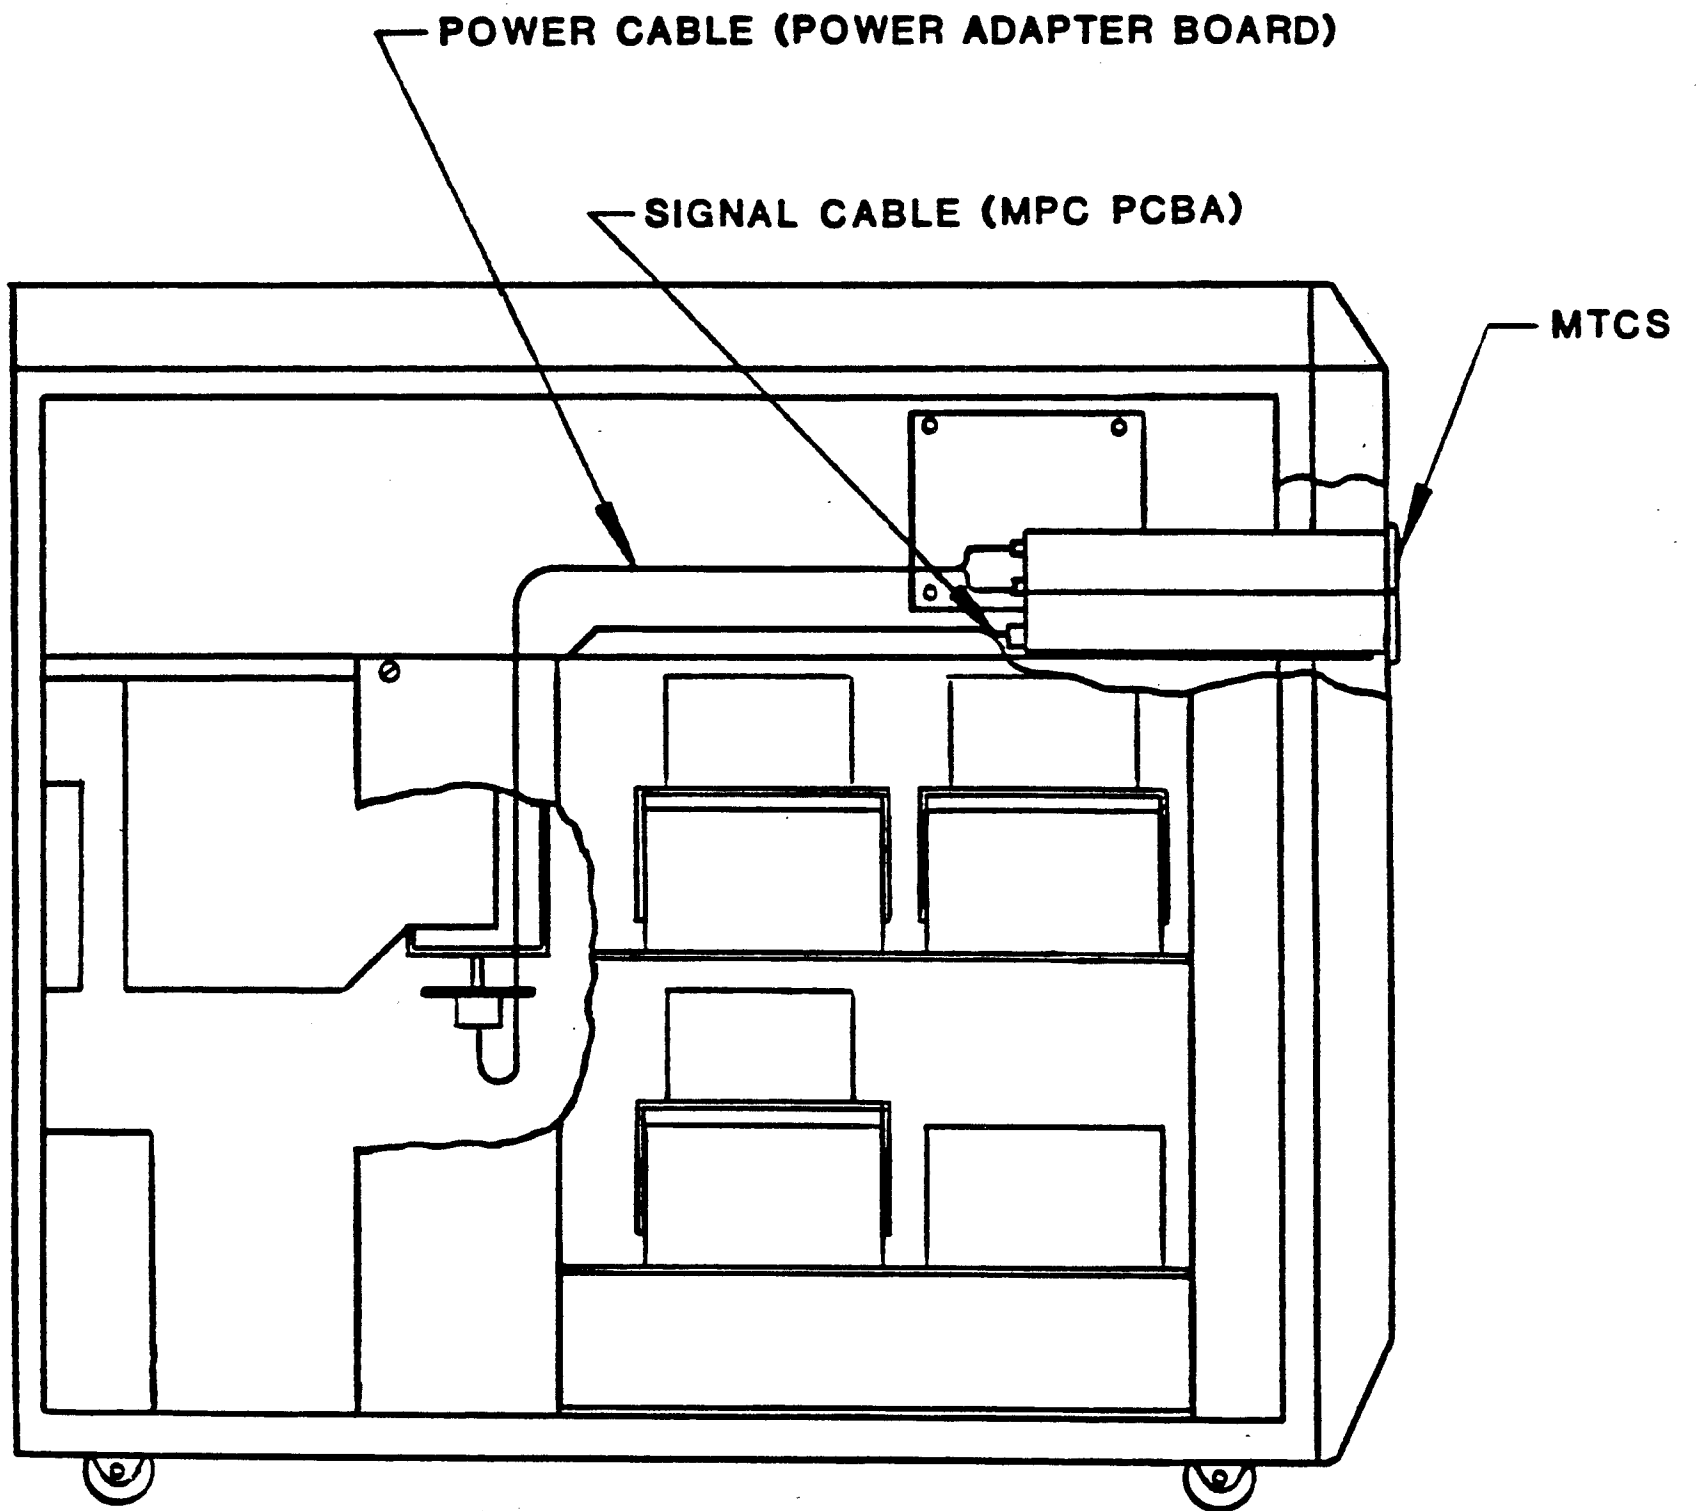

Figure 5-1. MICS Cable Routing
4. Mount the MTCS to the chassis (refer to Figure 5-1), and install and route the 907174-029 bus cable assembly from the MPC controller to the MTCS.
5. Install the 916116-001 Y-breakout cable assembly from the power adapter (on the rear of the mainframe card chassis) to two places on the MTCS (refer to figure 5-1).